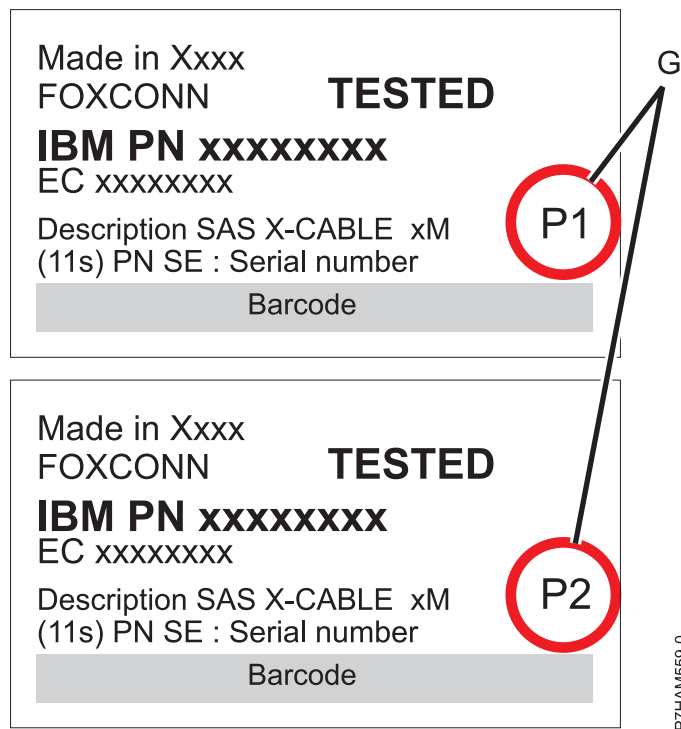

Figure 38. Labels for SAS adapter cables showing P1 and P2 identifiers
- The cable that plugs into independent SAS adapter 1 (C) contains a label with the P1 identifier (G), as shown in Figure 38 on page 33. This adapter does not have access to any other independent adapter and has access only to drive bays D1 - D6.
- The cable that plugs into independent SAS adapter 2 (D) contains a label with the P2 identifier (G), as shown in Figure 38 on page 33. This adapter does not have access to any other independent adapter and has access only to drive bays D7 - D12.
- The cable that plugs into independent SAS adapter 3 (E) contains a label with the P1 identifier (G), as shown in Figure 38 on page 33. This adapter does not have access to any other independent adapter and has access only to drive bays D13 - D18.
- The cable that plugs into independent SAS adapter 4 (F) contains a label with the P2 identifier (G), as shown in Figure 38 on page 33. This adapter does not have access to any other independent adapter and has access only to drive bays D19 - D24.